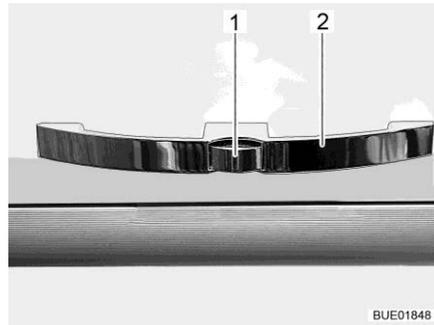

Fig. 85 Furniture flap with handle (example)
- Press the release knob (Fig. 85,1) on the handle (Fig. 85,2) and hold it down.